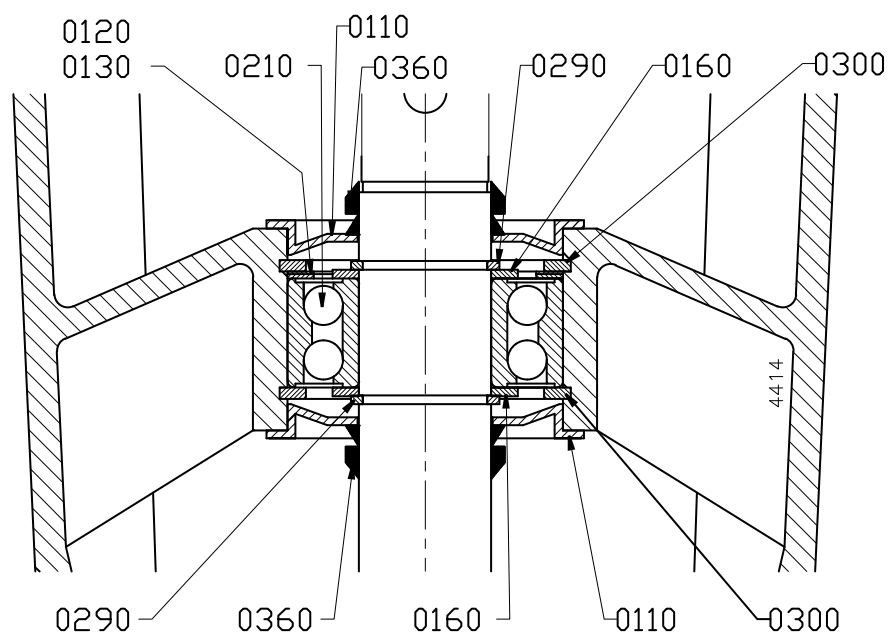

Figure 9: Bearing MCV(S) 12,5 - 14 a/b - 20a/b.
- 1 Fit the lower internal circlip (0300) and the lower bearing cover (0110), see figure 9.